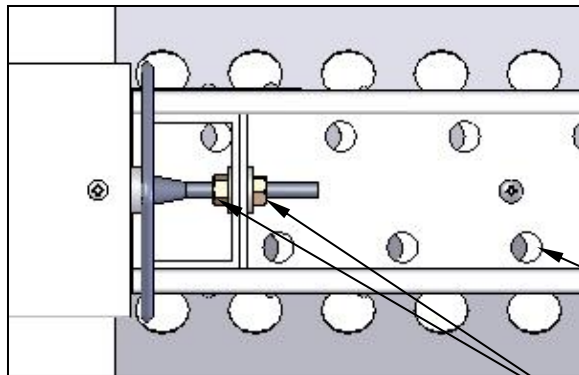

FIGURE 2
- Adjustments to the opening position must be made with air applied to the air cylinder or the "open position". The feeders are shipped with one-half of the maximum opening possible. (See Figure 2). We recommend using this setting and using timers to control the amount of feed required.